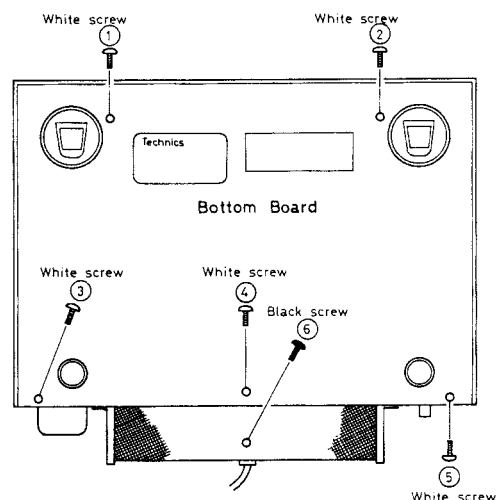

Fig. 1
1. Turn the set upside down and remove 5 setscrews (① ~ ⑥ in Fig. 1) on the bottom board.
The power supply voltage AC 110V/120V/ 220V or 240V is applied to line filter T201 through resistor R201 for the rush current protection. The line filter serves to prevent switching power supply noise from leaking into AC line. The AC power supply voltage 110V or 120V passed through the line filter and is voltage doubler rectified as shown in Fig. 1, whereas 220V or 240V is bridge-rectified, as shown in Fig. 2, to obtain DC ± 160 to 170V. The DC voltage is applied to the switching circuit through line filter T202 that prevents switching power supply noise. Then the voltage is converted to about 25kHz pulse, and further changed to about ± 42 V pulse by transformer T204, and to direct current by high speed resetting rectifiers D206 and D207, and supplied to power amplifier SE-C01.